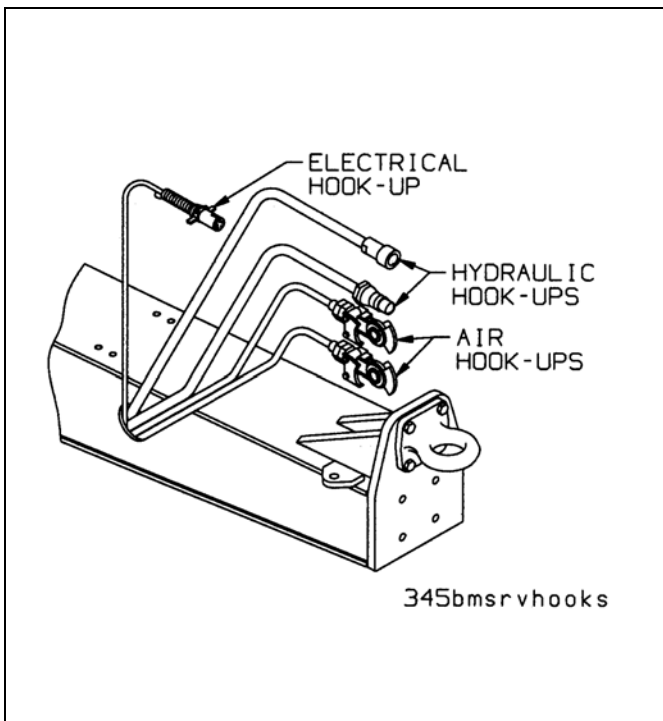

Figure 3-1: Service Hookups
6. Connect the service and emergency air hoses of the towing vehicle to their respective gladhand on the trailer. The towing vehicle's air hose couplings are attached and locked to the appropriate gladhands; **red emergency line** to the gladhand with the "EMERGENCY" tag, and the **blue service line** to the gladhand with the "SERVICE" tag (See Figure 3-1.)
1. Connect the electrical receptacle on the front of the trailer to the towing vehicle (**See Figure 3-1.**) Insure all lights function properly when energized by towing vehicle electrical action.